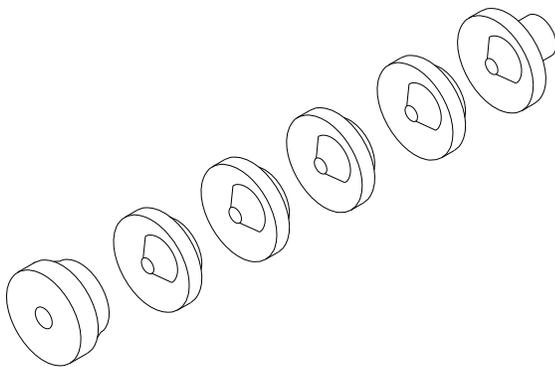

Figure 30: Chevron Seal Assembly
5. Unscrew needle/electrode from shaft and slide the male chevron adapter, the chevron seals and female chevron adapter off the shaft (see Figure 30).
Ressembly (Refer to Figures 30, 31, 32 33, and 34)